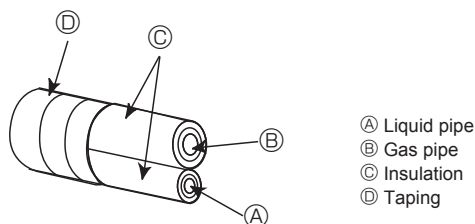
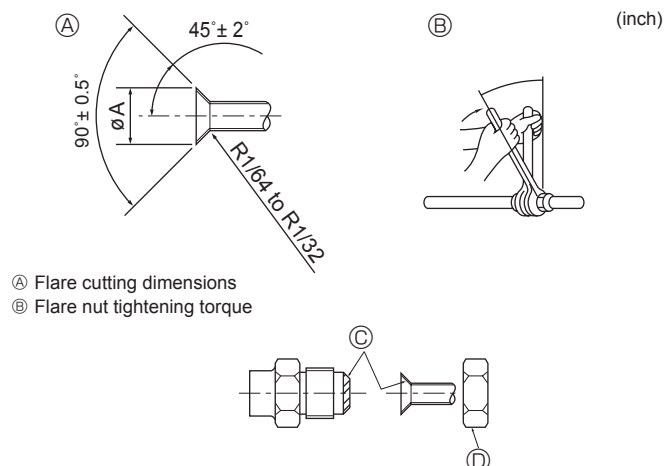

Fig. 4-1
Fig. 4-2
Ⓐ (Fig. 4-1)
Ⓑ (Fig. 4-1)
4.2. Connecting pipes (Fig. 4-1) (Fig. 4-2)
When commercially available copper pipes are used, insulate both the liquid and gas pipes separately with commercially available insulation materials (heat-resistant to 100 °C, 212 °F or more, thickness of 12 mm, 1/2 inch or more). (Fig. 4-1)
- The indoor parts of the drain pipe should be wrapped with polyethylene foam insulation materials (specific gravity of 0.03, thickness of 9 mm, 23/64 inch or more). (Fig. 4-2)